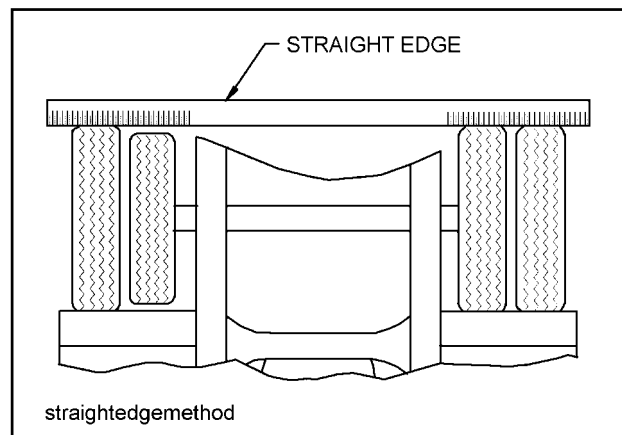

Figure 4-11 Straight Edge Method
- b. **Straight Edge or String Method:** (This method can not be used if tire and wheel assemblies are not mounted on the axle.) Jack trailer up until the wheels are off of the ground. Hold a straight edge against the tires of both ends of an axle. A gap at one tire indicates a smaller tire. A maximum of 1/8" gap is allowed (**See Figure 4-11**).